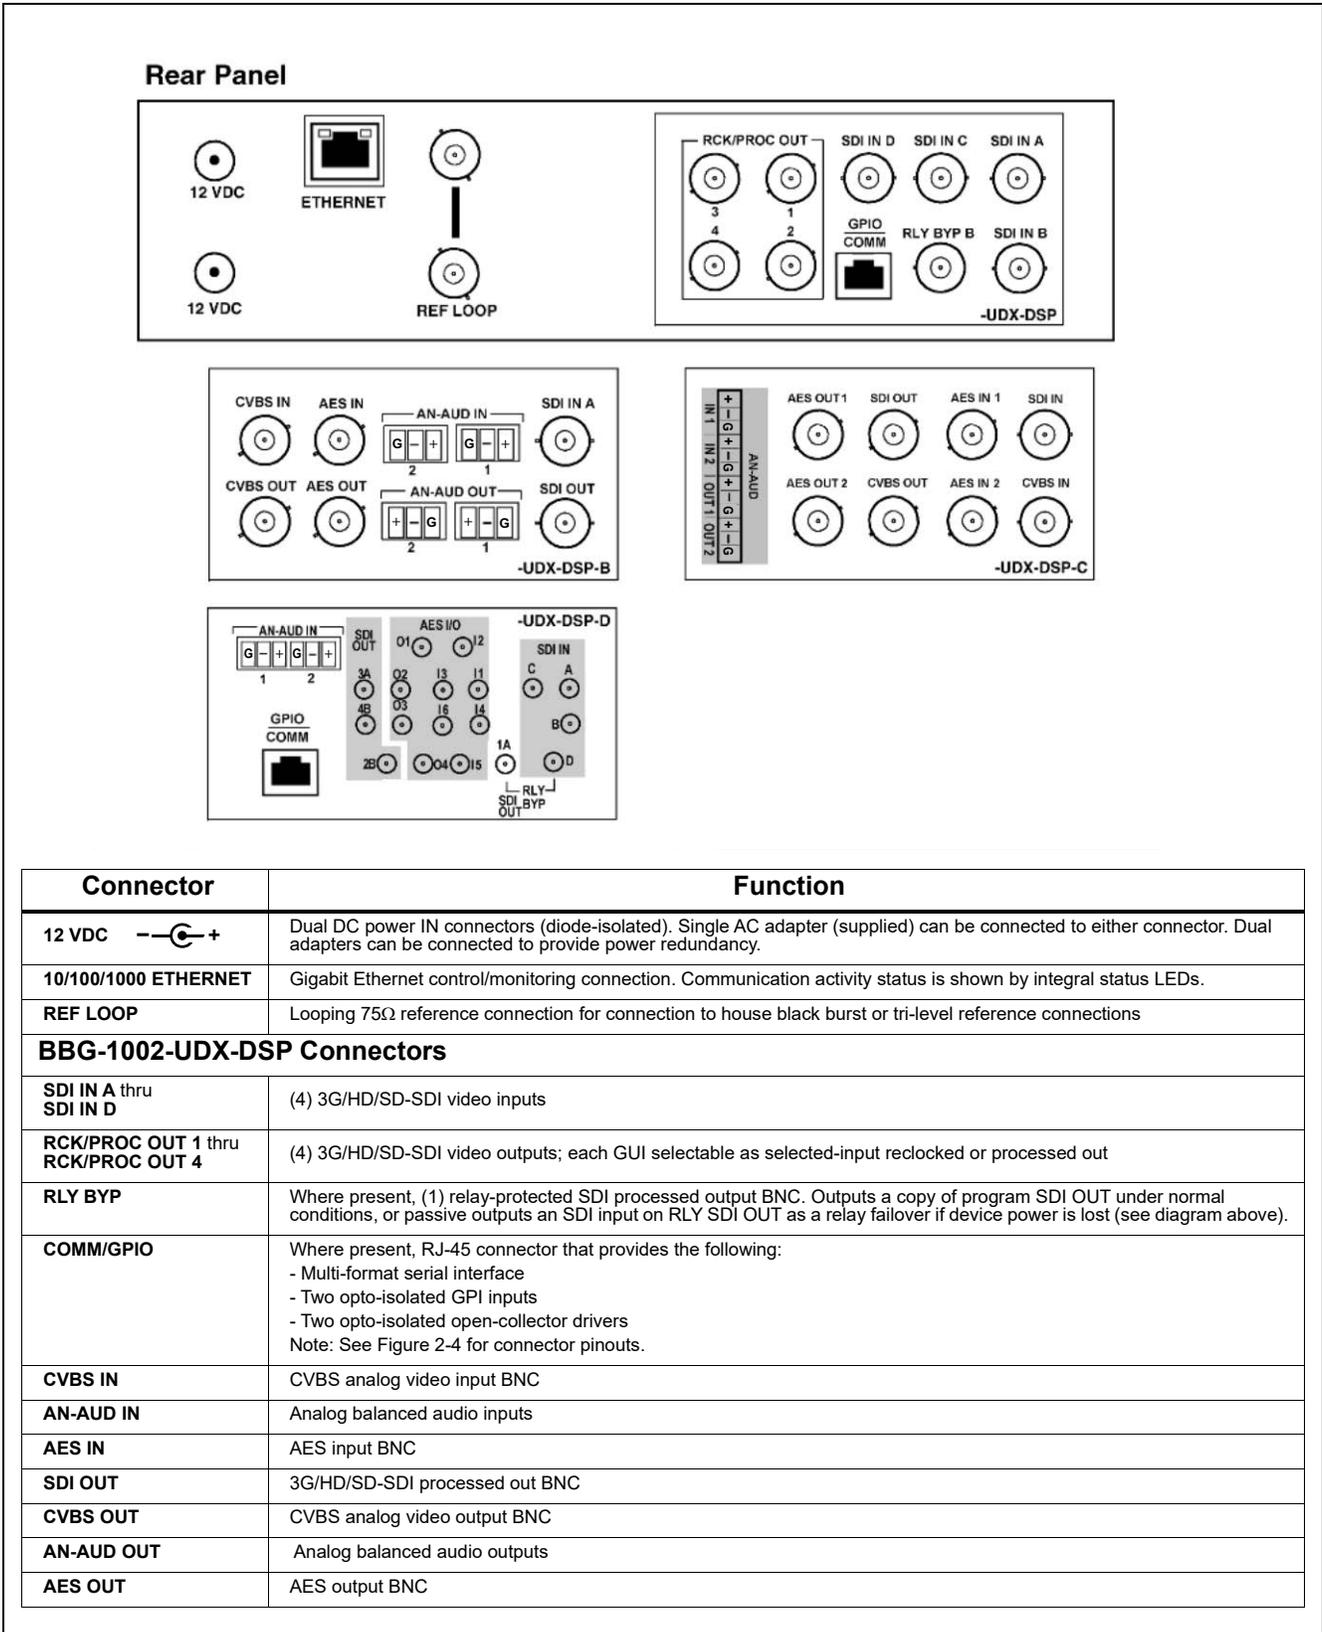

Figure 2-3 BBG-1002-UDX-DSP Rear Panel Connectors
2. Connect the input and output cables as shown in Figure 2-3.
Perform rear panel cable connections as shown in Figure 2-3.